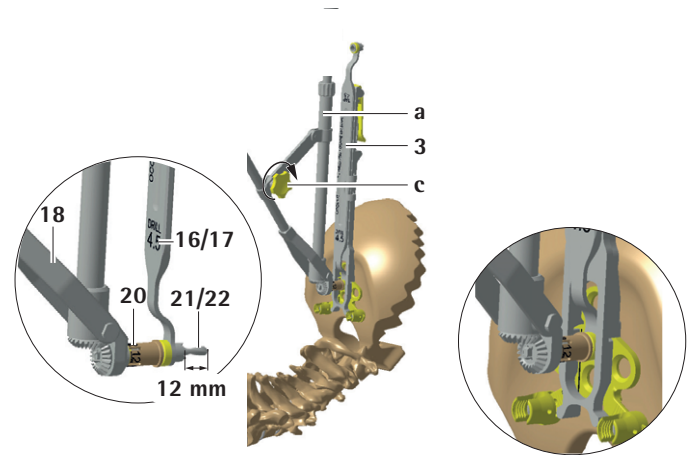

Fig. 6
- ▶ Insert the required drill into the guide up to the positive stop and verify the exposed length of the drill with a caliper (e.g. AA845R), as shown on the left side of the image, see Fig. 6.
- ▶ Drill by actuating the motor system and applying force on the handle b. Make sure that the shaft a of the angled gear instrument is held parallel to the occipital plate, see Fig. 6.